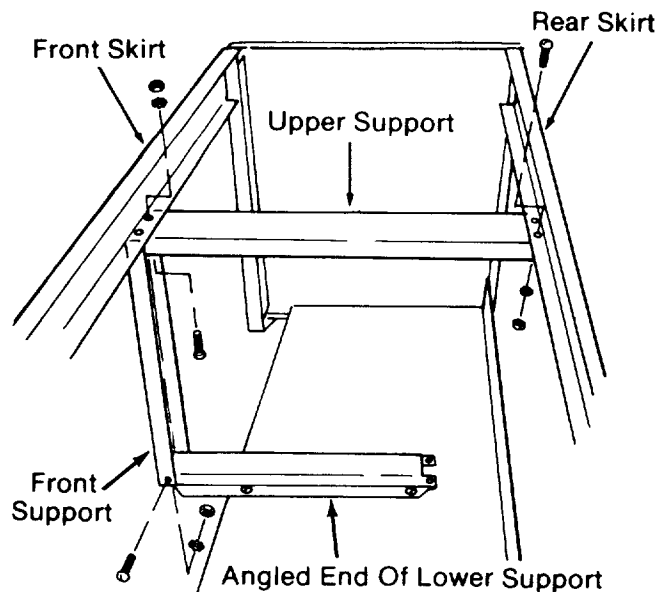

Fig. 38
3. Put the L-shaped assembly into place in the *cabinet*. The *upper support* should extend between the *front* and *rear skirts*, and the *front support* should extend between the *front skirt* and the angled end of the *lower support*. (Figure 38)